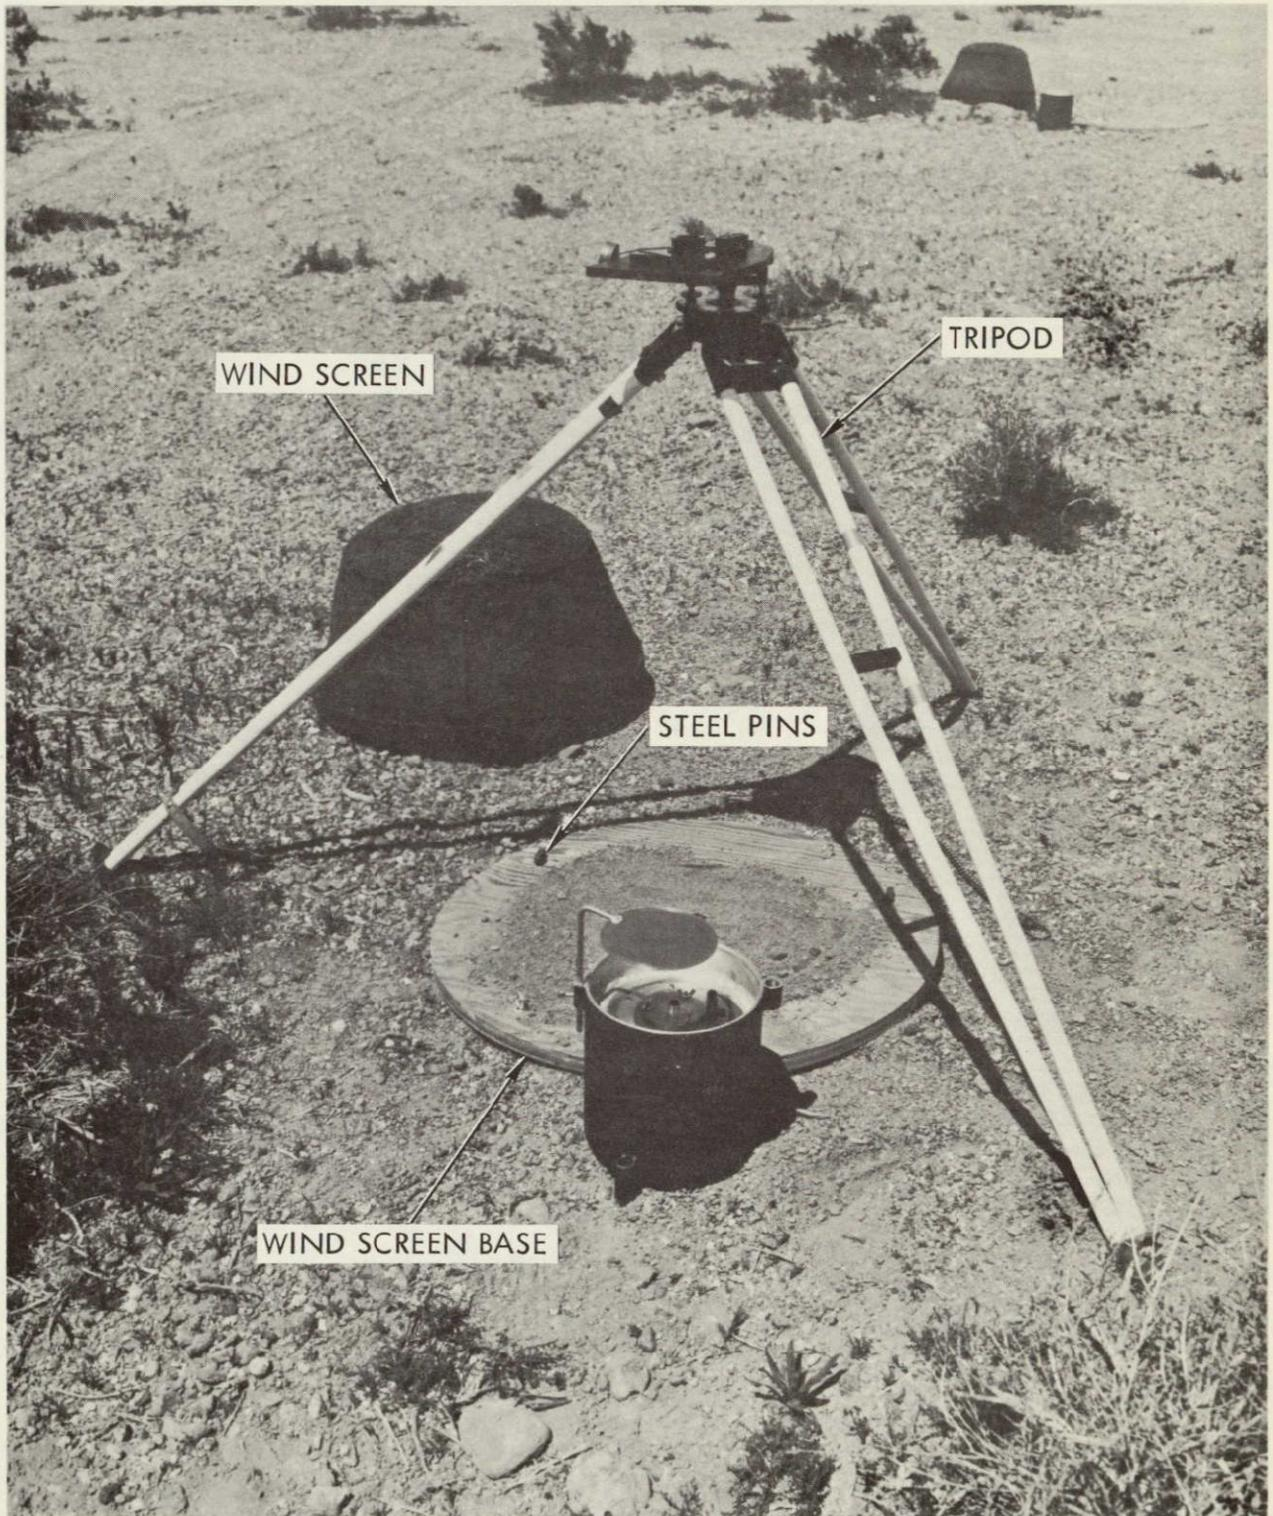

Fig. 11. Wind screen base and tripod
- 4) Place the wind screen base (Fig. 11) with eyebolts up, centered approximately around the survey stake of the array to be used.
- 6) Place the tripod over the surveyed stake (Fig. 11) and extend the legs so that the top surface is about 3 ft from the ground to facilitate positioning of the resonant cavity and alignment through the eye-piece.